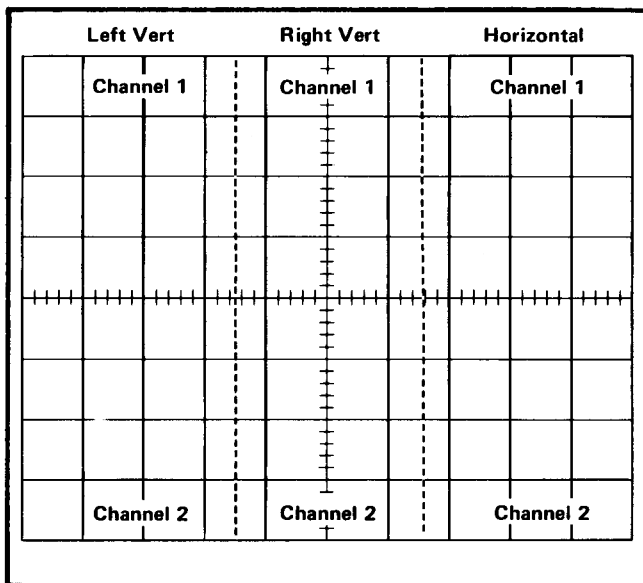
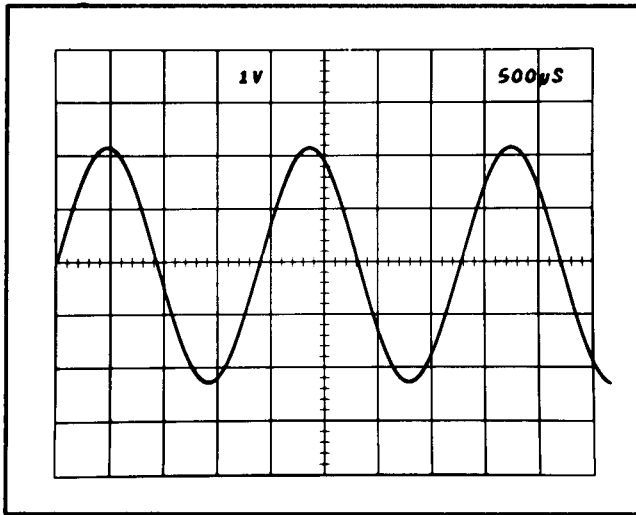

Fig. 4-24. Location of readout words on the CRT identifying the originating plug-in unit and channel (one complete frame shown, simulated readout).
Fig. 4-26. Typical readout display where only channel 1 of the Right Vertical and Horizontal units is displayed.
**Frame**—A frame is a display of all words for a given operating mode and plug-in combination. Up to six words can be displayed in one frame. Fig. 4-24 shows one complete frame (simulated readout) and the position at which each of the six words is displayed.
each word is fixed and is directly related to the plug-in unit from which it originated. Fig. 4-24 shows the area of the graticule where the readout from each plug-in unit is displayed. Notice that channel 1 of each plug-in unit is displayed within the top division of the CRT and channel 2 is displayed directly below within the bottom division. Fig. 4-26 shows a typical display.
The Character Generator stage produces the characters which are displayed on the CRT. Any of the 50 characters shown on the Character Selection Matrix of Fig. 4-24 can be addressed by proper selection of the column and row current. Only one character is addressable in any one time-slot; a space can be added into the displayed word by the Decimal Point Logic and Character Position Counter stage when encoded by the plug-in. The latter stage counts how many characters have been generated and produces an output current to step the display one character position to the right for each character. In addition, the character position is advanced once during each of time-slots 1, 2, and 3 whether a character is generated during these time-slots or not. This action fixes the starting point of the standard-format display such that the first digit of the scaling factor always starts at the same point within each word regardless of the information encoded in time-slot 2 (normal/invert) or time-slot 3 (cal/uncal) which precedes this digit. Also, by encoding row 10 and column 0 during any time-slot, a blank space can be added to the display. Decimal points can be added to the display at any time by addressing row 7 and columns 3 through 7 (see Character Selection Matrix for location of these decimal points). The Decimal Point Logic and Character Position Counter stage is reset after each word by the Word Trigger pulse.
The Format Generator stage provides the output signals to the vertical and horizontal deflection systems of the instrument to produce the character display. The binary Channel Address No. 2 code from the Channel Counter stage is connected to this stage so that the display from each channel is positioned to the area of the CRT which is associated with the plug-in and channel originating the word (see Fig. 4-24). The positioning current or decimal point location current generated by the Decimal Point Logic and Character Position Counter stage is added to the horizontal (X) signal at the input to the Format Generator stage to provide horizontal positioning of the characters within each word. The X- and Y-output signals are connected to the Horizontal Amplifier and Vertical Amplifier through the Horizontal Output and Vertical Output stages respectively.